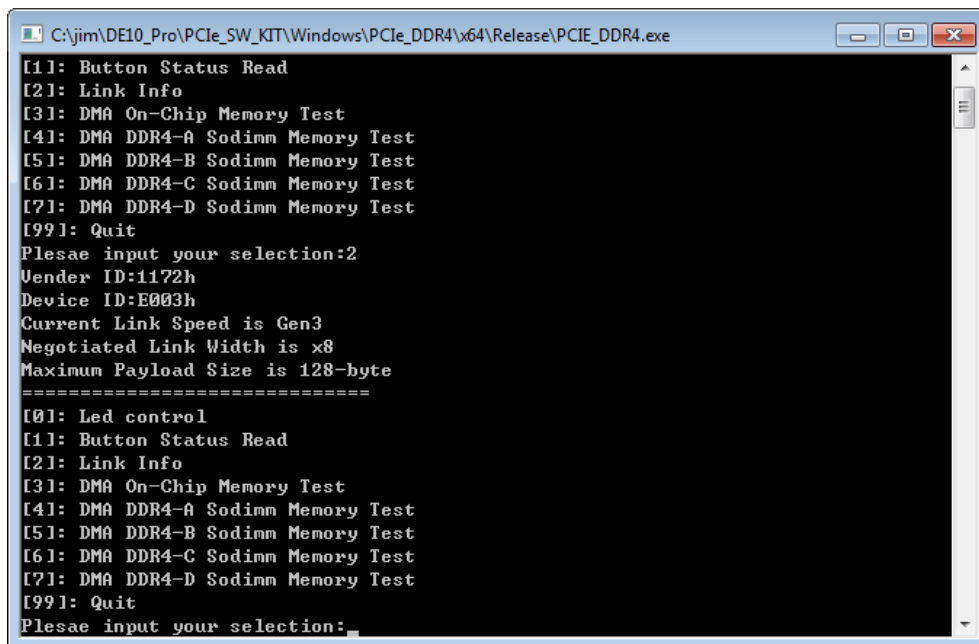

Figure 7-17 Screenshot of Link Info
8. Type 2 followed by the ENTER key to select the Link Info item. The PCIe link information will be shown as in **Figure 7-17**. Gen3 link speed and x8 link width are expected.